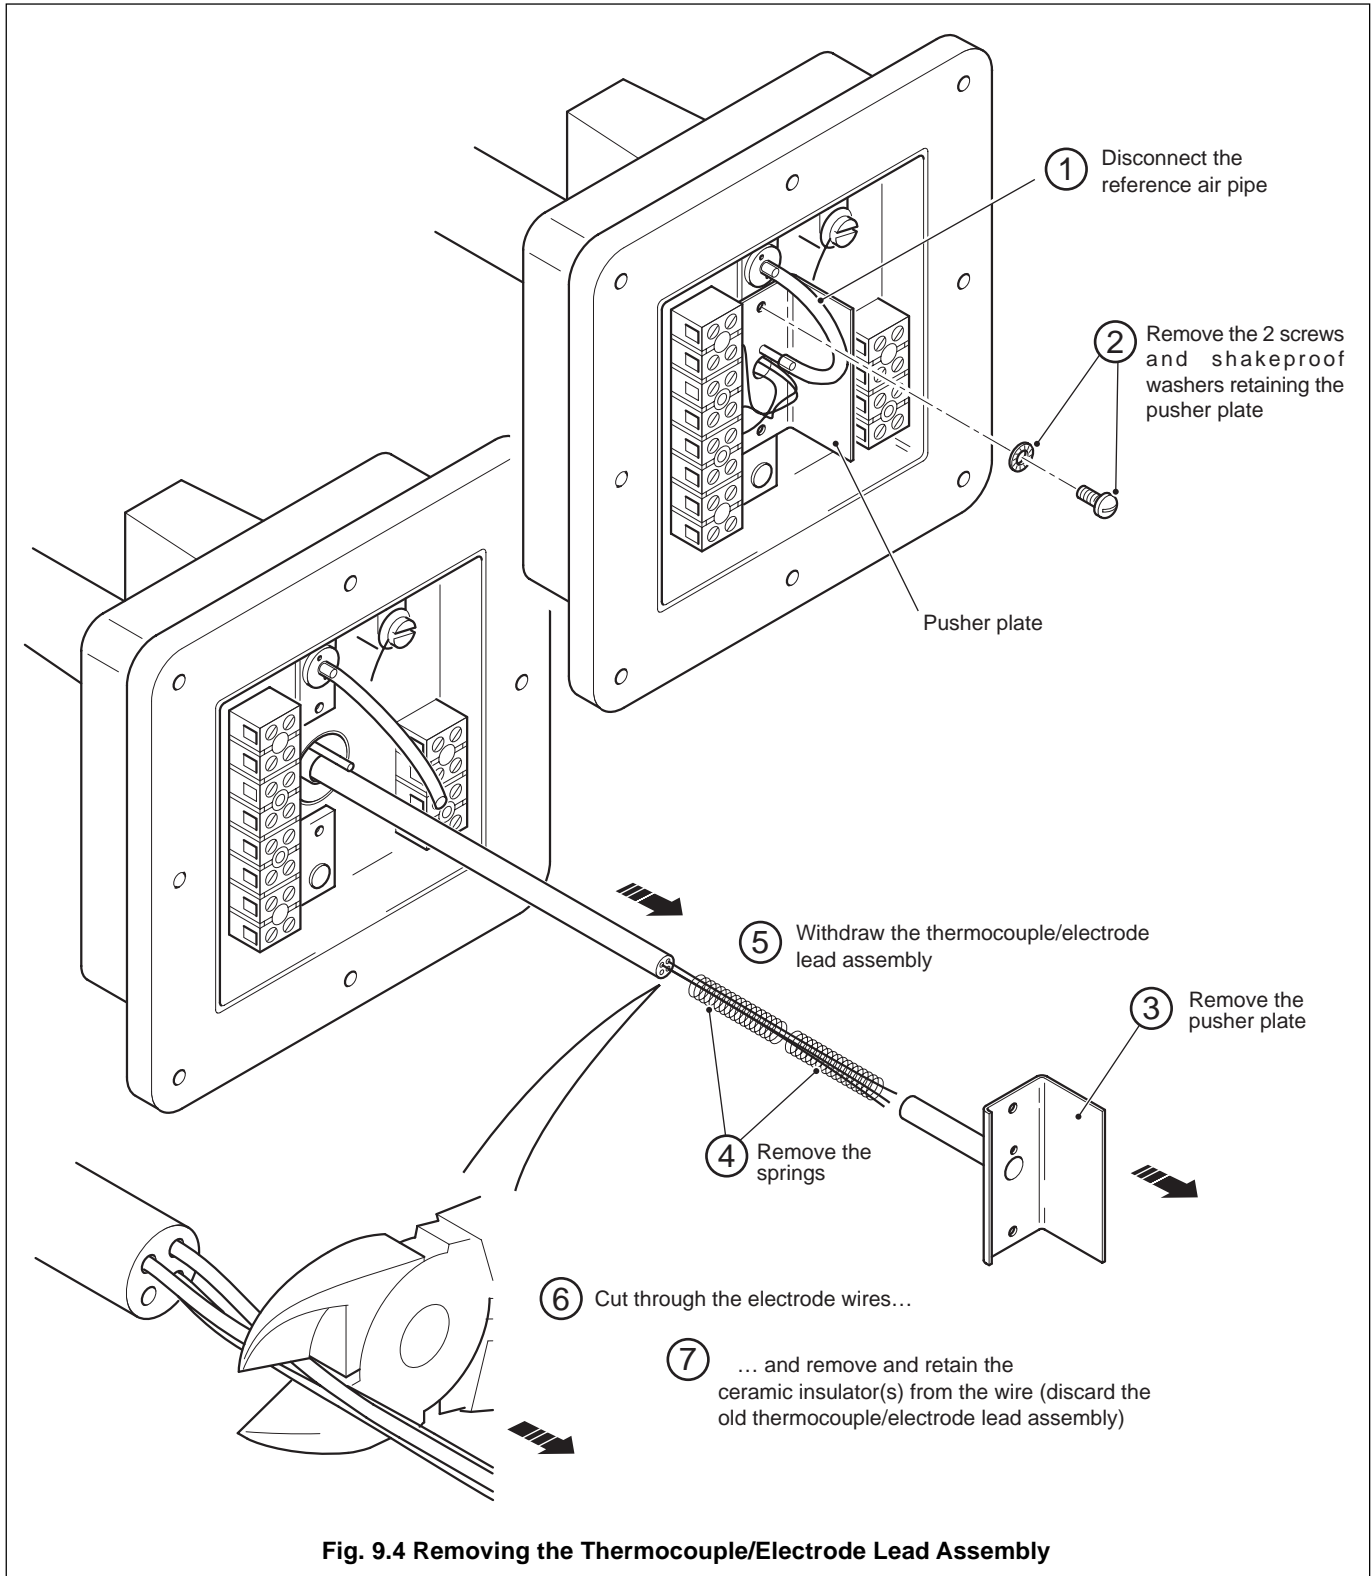

Fig. 9.4 Removing the Thermocouple/Electrode Lead Assembly
#### 9.3.1 Removing the Thermocouple/Electrode Lead Assembly – Fig. 9.4
- c) Remove the thermocouple/electrode lead assembly as described in Fig. 9.4.